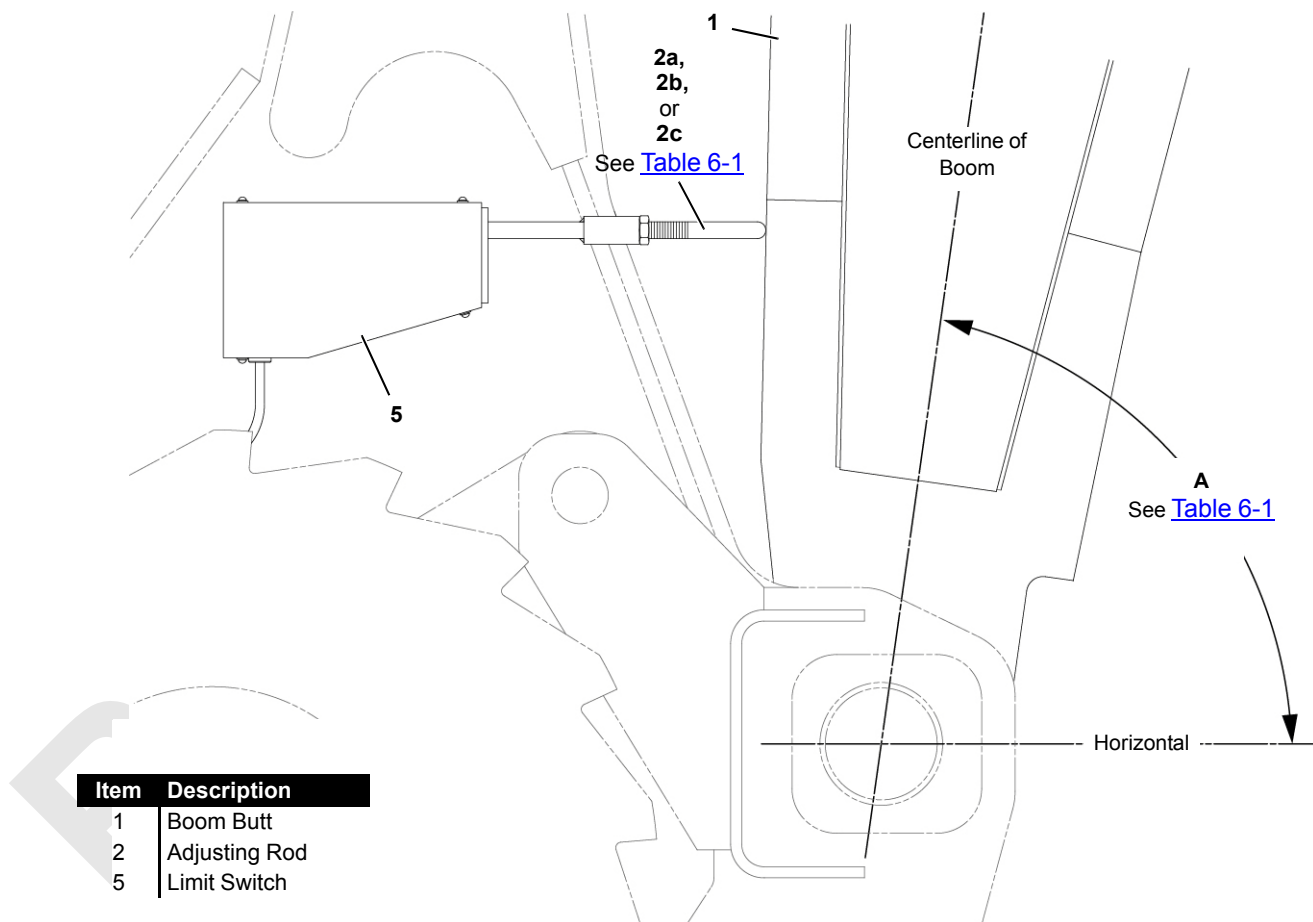

FIGURE 6-3
Boom stop limit switch assembly (5, Figure 6-3) automatically stops the boom and applies the boom hoist brake when the boom is raised to **Angle A**.
2. Make sure the proper adjusting rod is installed (see Figure 6-3 and Table 6-1).
3. Raise the boom to specified **Angle A** (see Figure 6-3 and Table 6-1) while monitoring the angle on the mechanical indicator or on the operating conditions screen of the front-console display.
- a. Place an accurate digital level (13) on the centerline of the boom butt as shown in View C. **Angle A** should appear on the digital level.
- b. Turn adjusting rod (2a, 2b, or 2c) all the way into coupling (4).